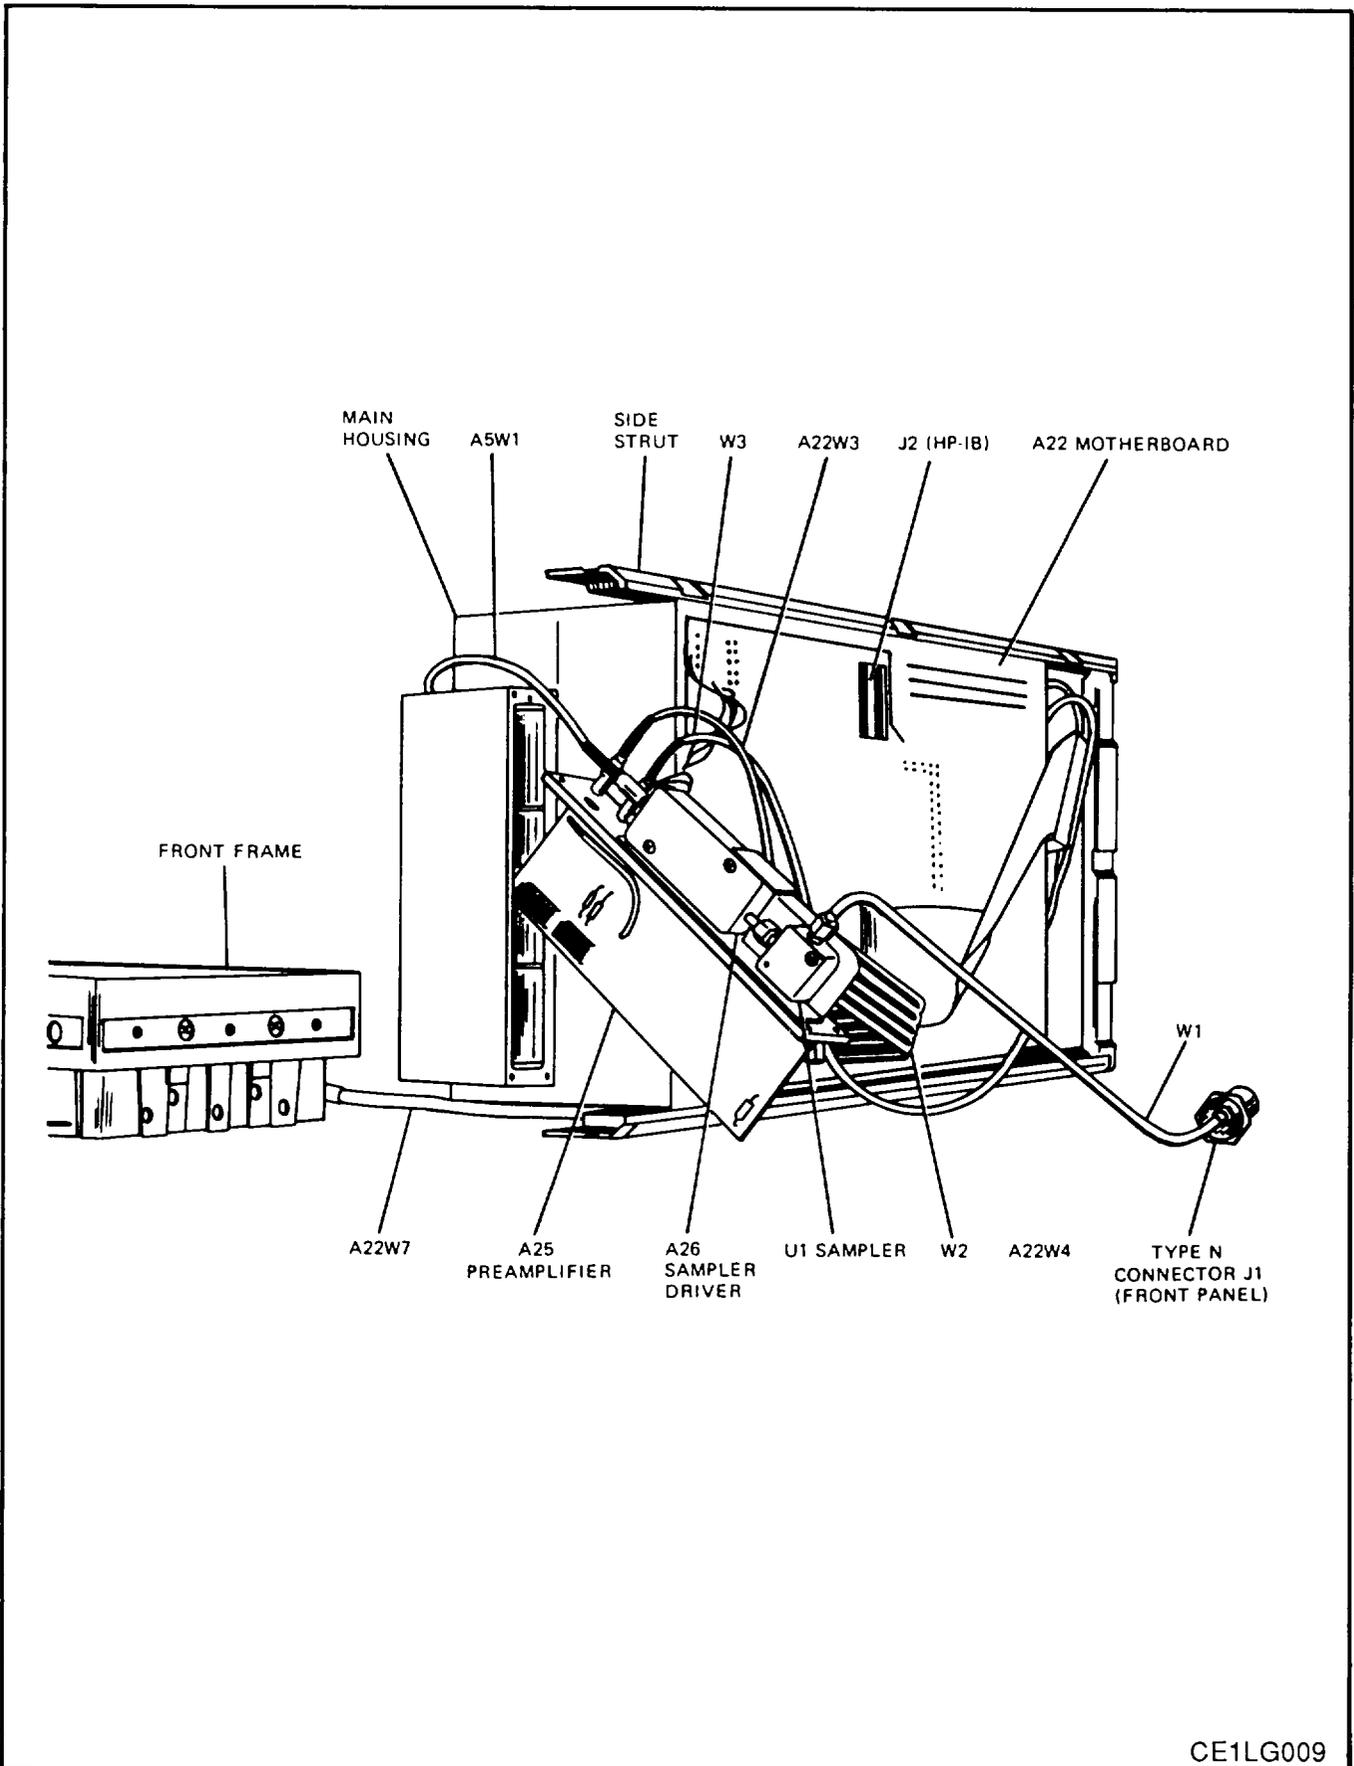

Figure 8-2. Front Frame, A25,A26, and U1 Removal
- f. The front panel frame (containing assemblies A1 and A2) can now be moved freely within limits of the power cable, as shown in Figure 8-2.